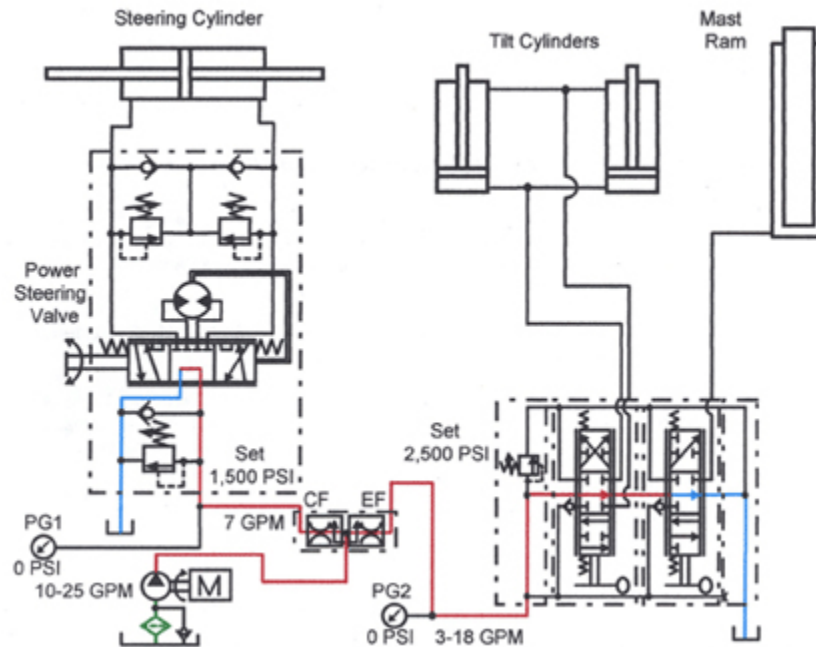

Figure 11-14. Typical lift-truck circuit using spool-type priority flow divider.
Figure 11-14 shows a typical spool-type priority flow divider circuit. A priority flow divider maintains constant flow from the controlled flow (CF) port. Any additional flow passes out the
In Figure 11-14, a fixed-orifice priority flow divider is used on a vehicle with power steering and hydraulic actuators. This is the standard circuit for a forklift truck using a fixed-volume pump. The power-steering circuit needs 7 gpm and pump flow at idle is a minimum of 10 gpm. The actuators need as much as 15 gpm for maximum speed.